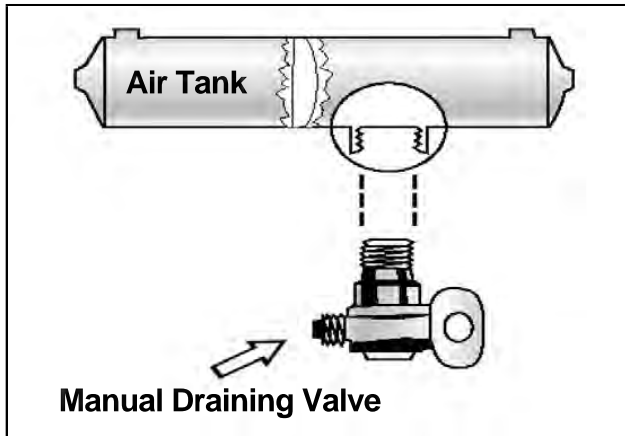

Figure 5.1
- **Manual**—operated by turning a quarter turn or pulling a cable. You must drain the tanks yourself at the end of each day of driving. See Figure 5.1.